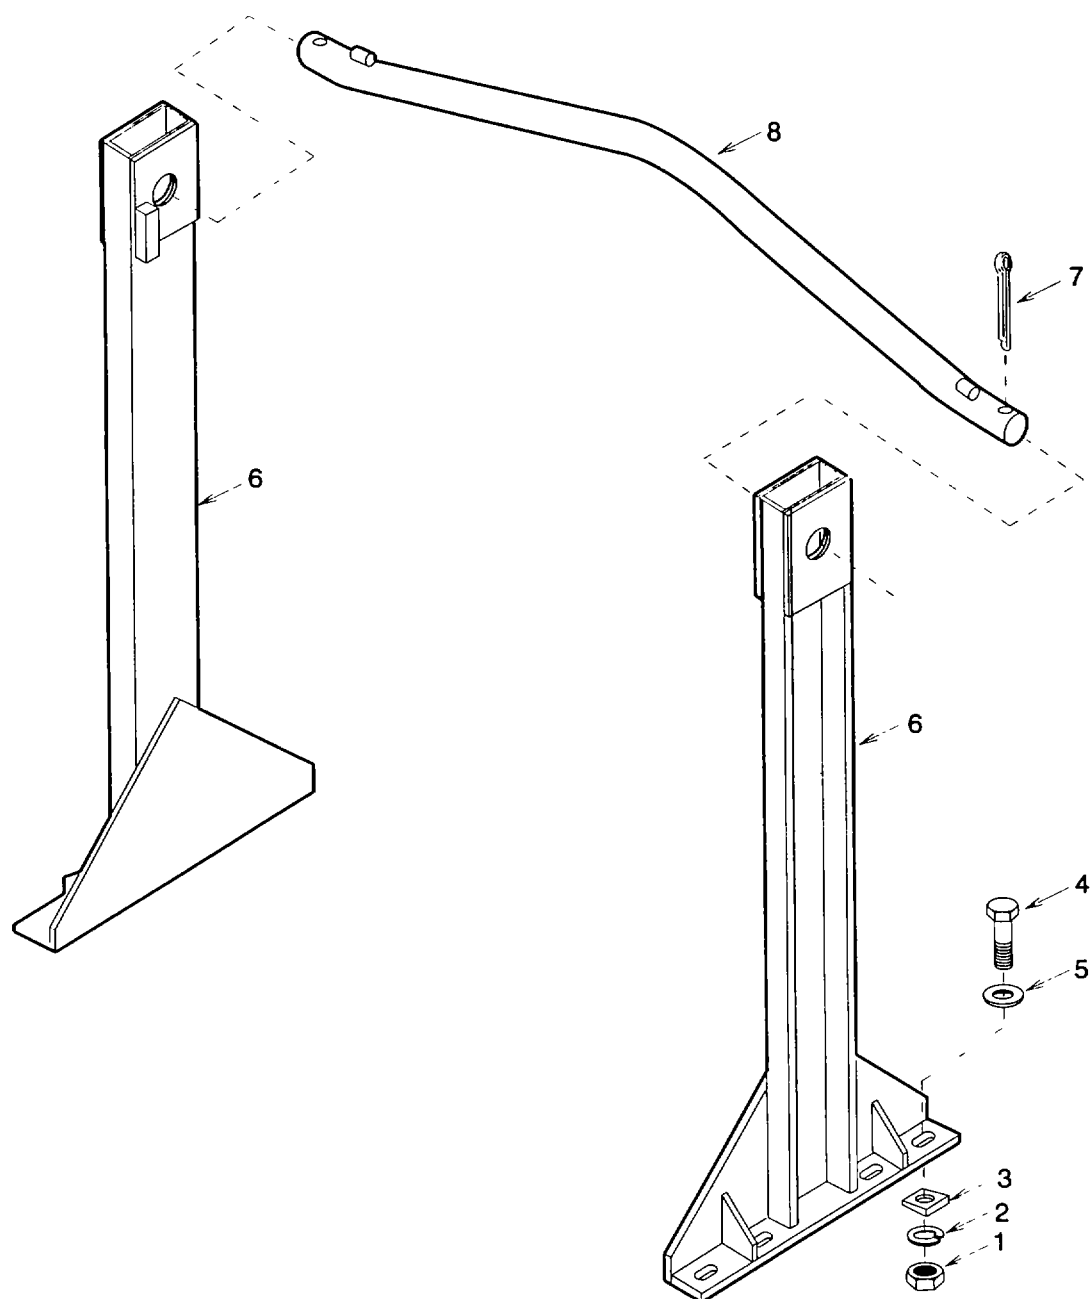

Figure 4-18. Lift Bar Assembly
**a. Removal** (See figure 4-18.)